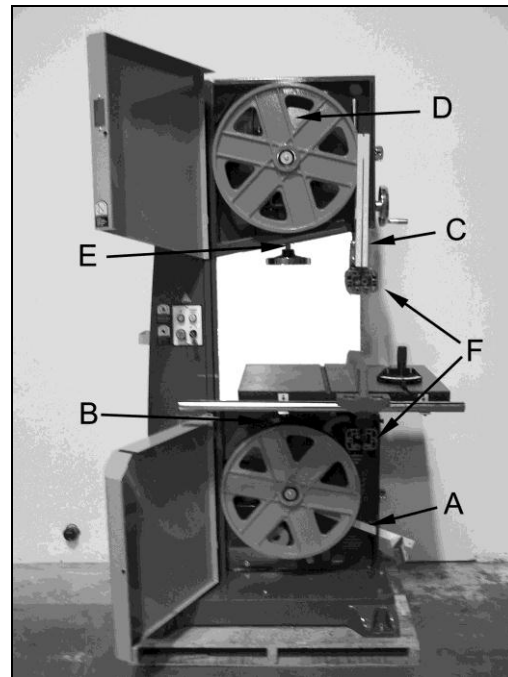

Figure 15
Keep the brake switch (A, Figure 15) clean and free of dust build up.
Adjust the lower wheel brush (B, Figure 15) to make contact with the tire as the brush wears.
- Clean and grease upper guide raising and lowering rack (C, Figure 15) monthly, or as needed.
- Oil the components (D, Figure 15) that the upper wheel slides on for blade tension monthly, or as needed.
- Grease the tensioning screw (E, Figure 15) monthly, or as needed.
- The guides (F, Figure 15) require inspection daily or every 8 hours of use. Check that the bearings spin freely and that the bakelite guides are adjusted to the blade.